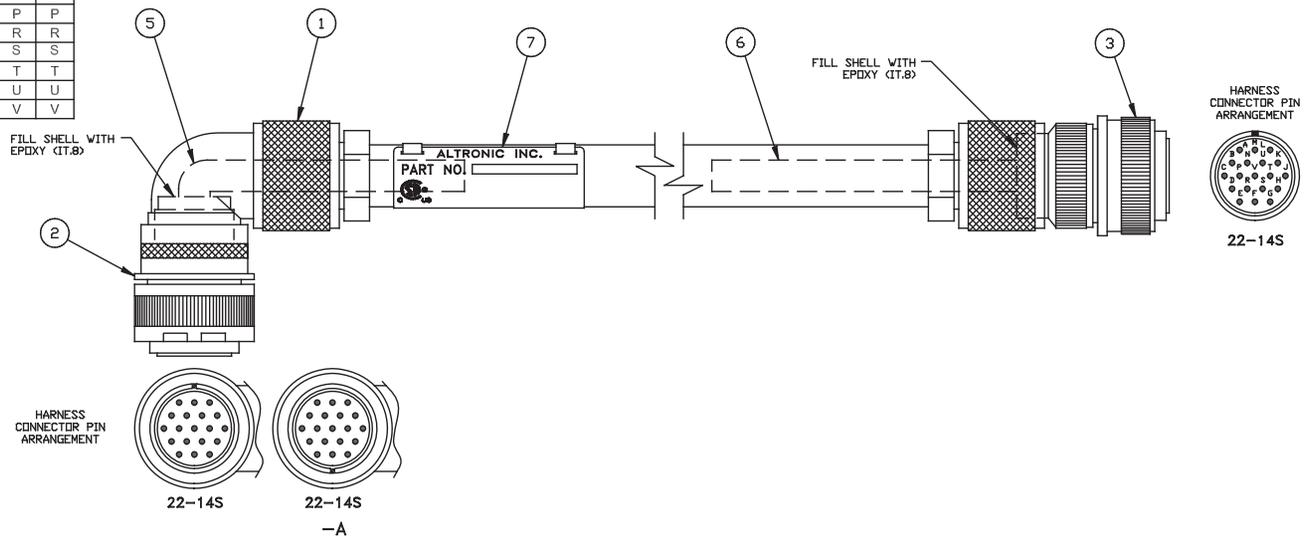

FIGURE 14: SHIELDED HARNESS (793102)
- FIGURE 14: SHIELDED HARNESS (793102)**